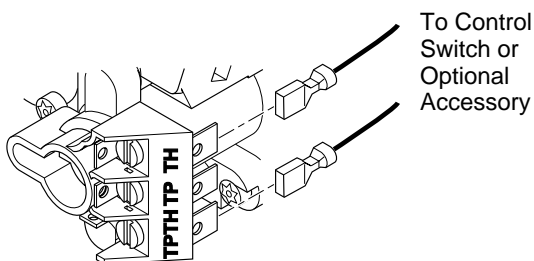

Figure 44 - Control Valve Terminals
3. Disconnect wires from THTP and TH on control valve that lead to the switch (see Figure 44). Discard switch plate, screws, and nuts.
7. Connect the wires from the receiver to the valve at TH and THTP (see Figure 44).